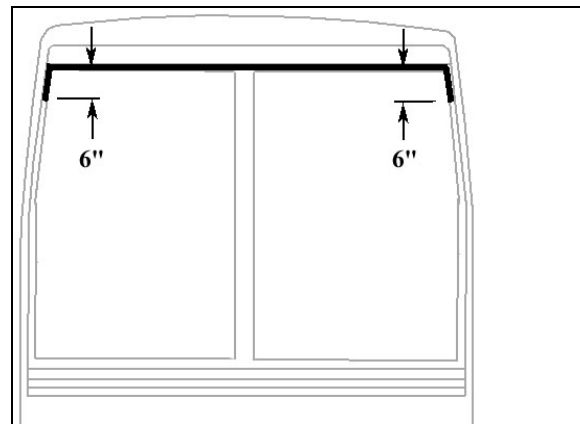

FIGURE 24: APPLICATION OF SIKA 221 BLACK
- Apply Sika 221 black (Figure 24) between fiberglass and rubber extrusion